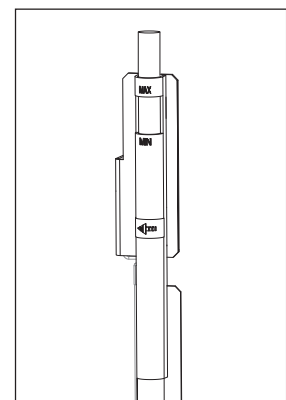

Fig. 83
2. Check the water level gauge (Fig. 83) to make sure the water pan is filled up with tap water. The water level must be between the MIN and MAX marks. If necessary, fill up the water bath with tap water.